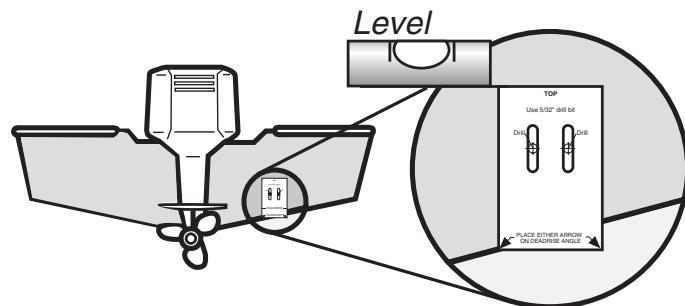

Figure 3
2. Hold the template on the transom of the boat in the location where the transducer will be installed. Align the template vertically with the inside arrow of the template on the deadrise where the bottom of the hull meets the transom wall. (Figure 3).